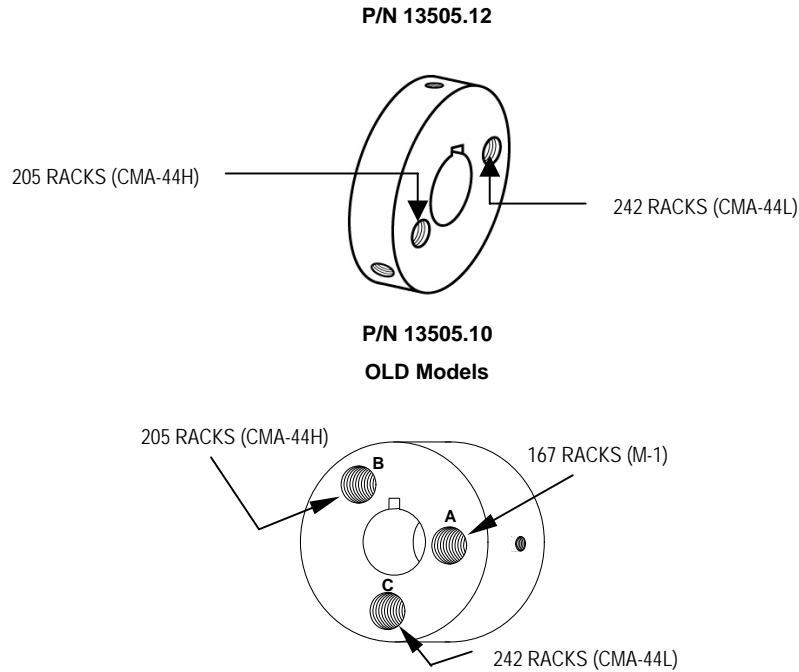

**Figure 2.3.3a**
1. Tables must slant into the machine for proper drainage (for each 28" of table length a drop of at least ¾" in table height is recommended). See **Figure 2.3.3a.**